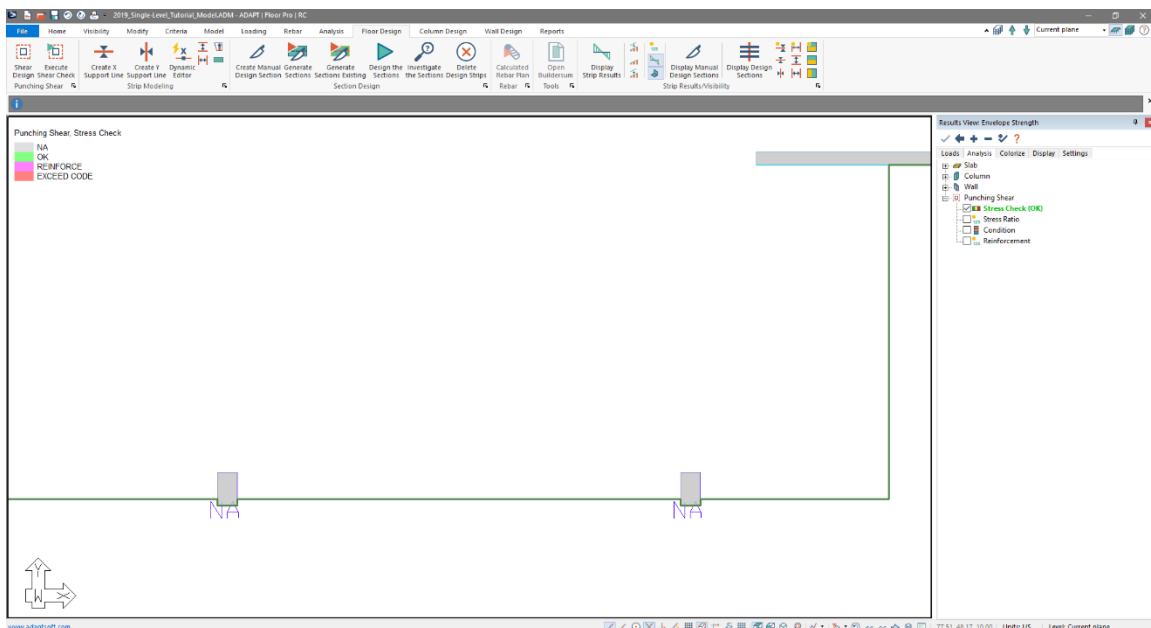

Figure 7-8
- Move the added points of the slab such that the columns are engulfed by the slab as shown in **FIGURE 7-8**.